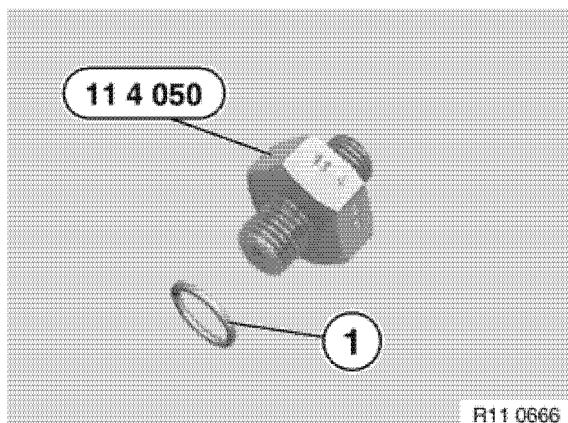

Figure 8-3
6. Install special tool OEM No. 11 4 050 with O-ring (1, **Figure 8-3**) in oil pressure sensor port.